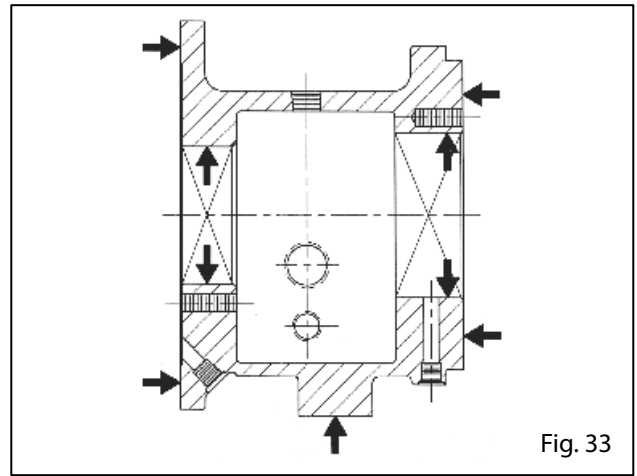

Fig. 33
- Y Check all lubrication passages and make sure they are not clogged (see Figure 33).